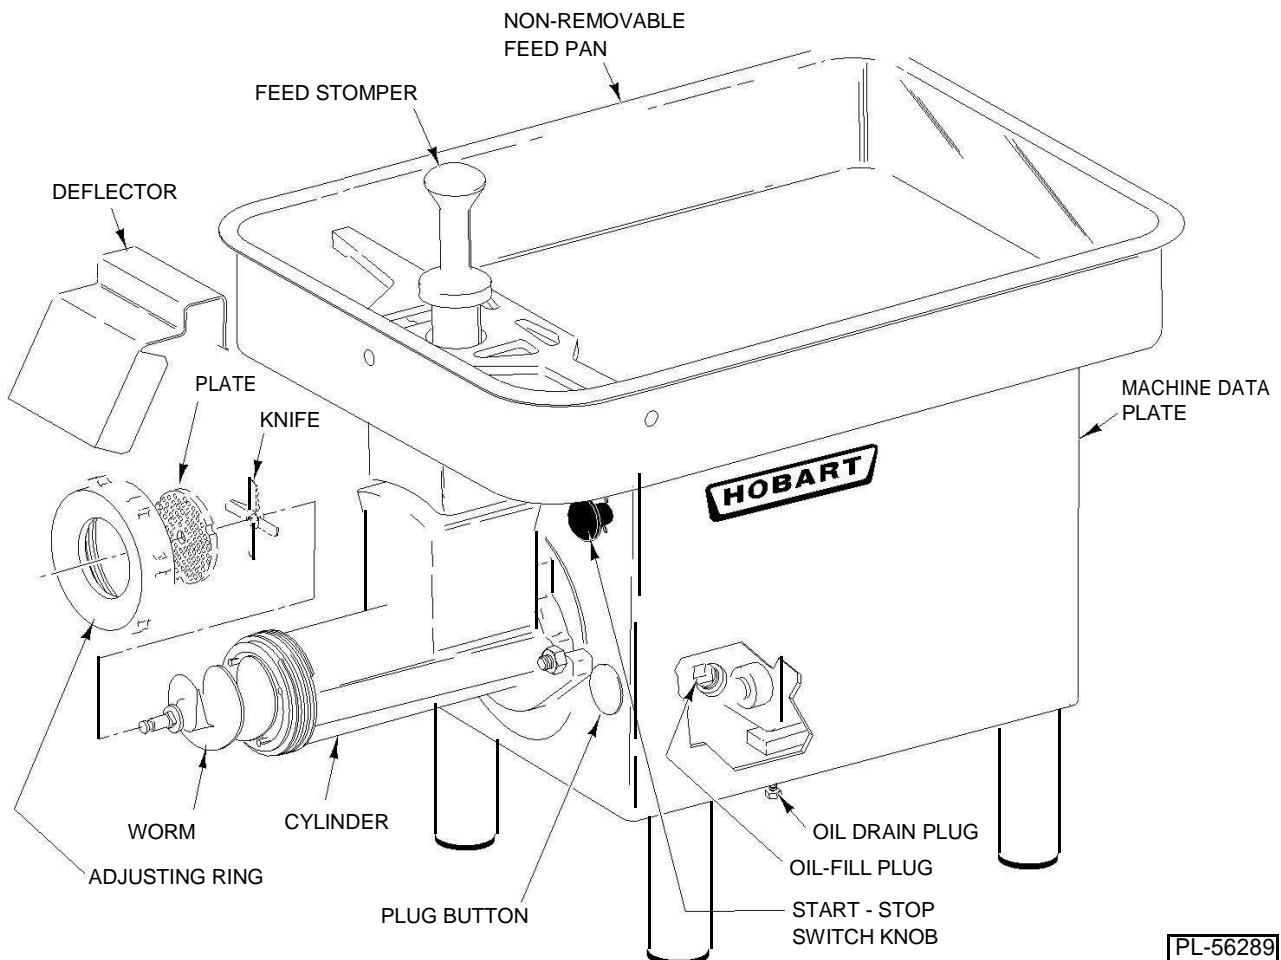
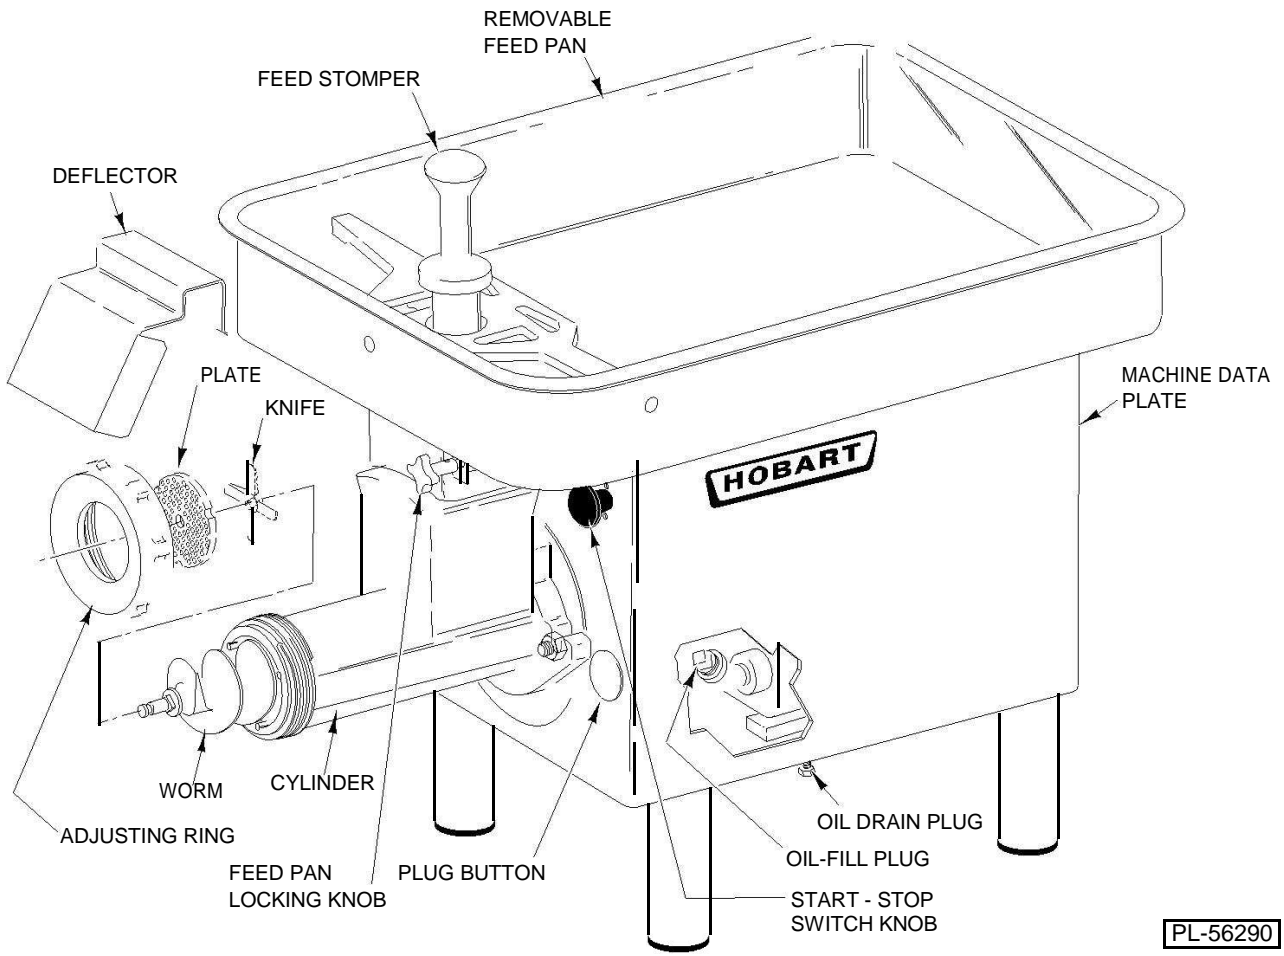
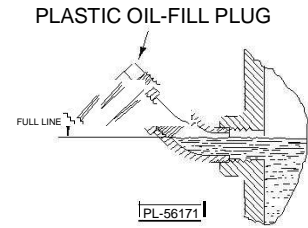

Fig. 3
Fig. 4
Fig. 6
After cleaning, assemble chopper Cylinder, Worm, Knife, Plate and Adjusting Ring (and Feed Pan on model 4732A) as discussed in cleaning, page 7, and Fig. 3 or Fig. 4. Place the Deflector over the Adjusting Ring.
- To start the chopper, pull the Start-Stop Switch Knob (Fig. 3 or Fig. 4).
Store the Feed Stomper as shown in Fig. 3 or Fig. 4.
To change the gear case oil, place a suitable catch pan under the machine and remove the Drain Plug (Fig. 3 or Fig. 4). When old oil is completely drained, replace the Drain Plug. Fill the gear case with 21 fluid ounces of Mobilgear 634 as follows: Remove the Plug Button (Fig. 3 or Fig. 4); then remove the Plastic Oil-Fill Plug (Fig. 6). Pour the proper amount of Mobilgear 634 into the elbow. The gear case is full when the oil is at the bottom thread level of the elbow (Fig. 6). Thread the Plastic Oil-Fill Plug back into the elbow, finger-tight. Press the Plug Button back into the hole of the chopper housing. The chopper requires no other lubrication maintenance.